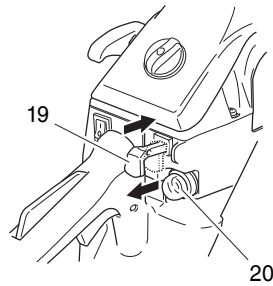

Fig. 14
*Push priming pump (20) several times so that fuel flows through bulb into carburetor. (Fig. 14)
2. Pull the choke lever (19) to choked position (Fig. 14). This will automatically lock to the half-throttle.
5. When you hear first ignition, return the choke lever (19) all the way in. (Fig. 14)